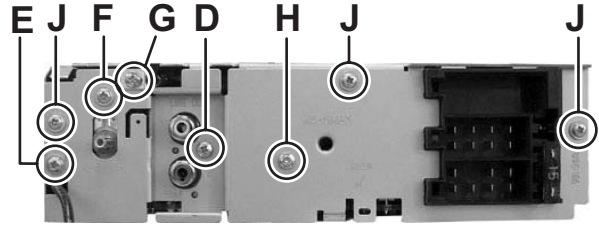

Fig.4
3.1.4 Removing the REAR BRACKET (See Fig.4)